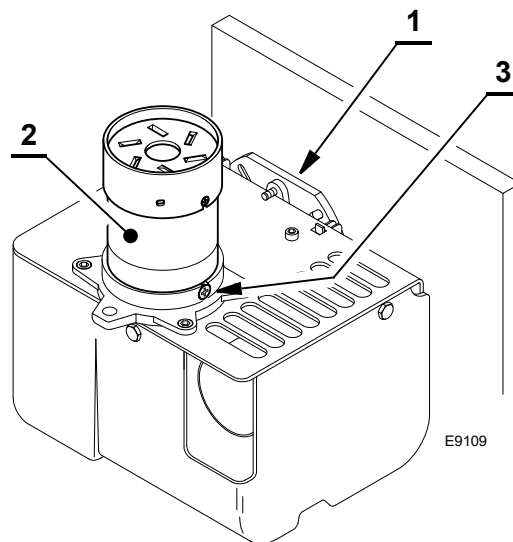

Fig. 20
- Hook the burner to the flange 1)(Fig. 20), by removing the blast tube 2) after loosening the fixing screws (3).